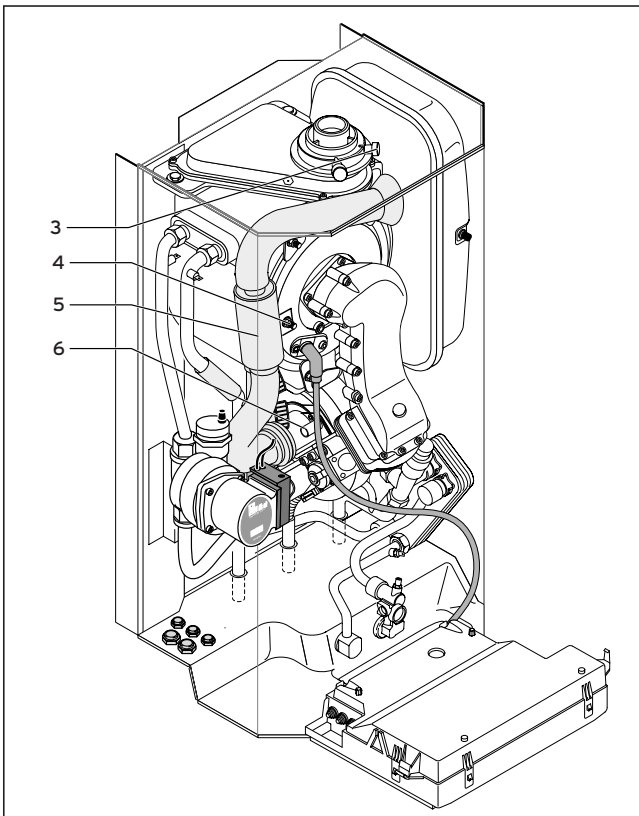

Fig. 9.12 Carrying out measurement of CO₂ levels, preparing for air-ratio adjustment
- Measure the level of CO₂ content at the exhaust-fume test outlet (3) (Fig. 9.12). Check the reading against the corresponding value in tab. 9.2.
- If the exhaust-fume setting requires adjustment, remove the screw (4) and swivel the air suction pipe (5) forwards through 90° (Fig. 9.12). DO NOT remove the air suction pipe.